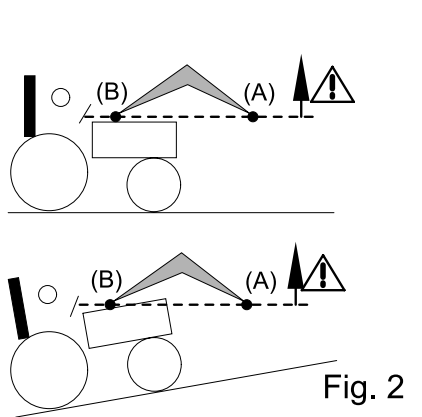
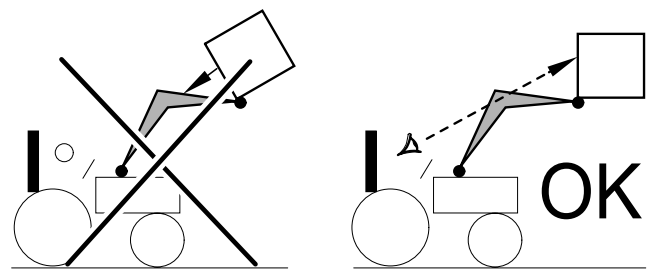

Fig. 2
Fig. 3
- During lifting operations and when moving, ensure that you keep the load in sight, from the moment the implement pivot point (A) passes above the horizontal line of the loader pivot point (B) [see Fig. 2]. If necessary, correct the implement's position so that the load is never directed towards the driver [see Fig. 3].
- !** **DANGER:** If the load is not properly secured, the operator is exposed to the risk of the load falling when the implement pivot point (A) passes above the horizontal line of the loader pivot point (B) [see Fig. 2].
- !** **DANGER:** Do not crowd the loader when the implement pivot point (A) exceeds the horizontal line of the loader pivot point (B) [see Fig. 2].